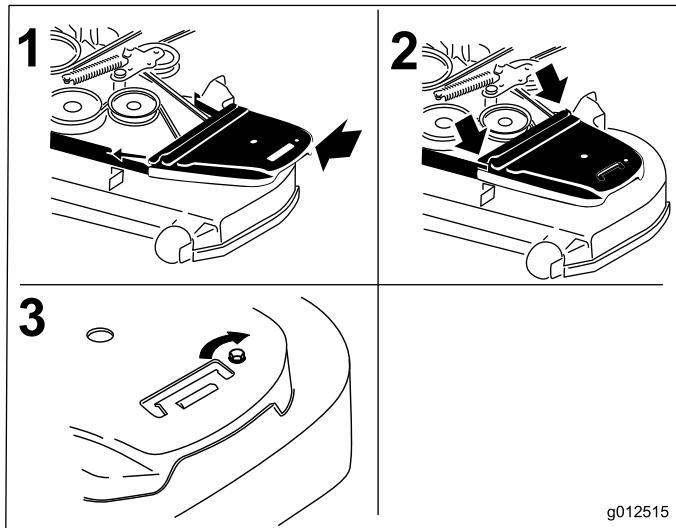

**Figure 73**
9. Install the new belt around the mower pulleys and the clutch pulley under the engine (Figure 73).
10. Install the belt guide on the idler arm shown in Figure 73.
11. Using the ratchet in the square hole, install the idler spring (Figure 73).
5. Use a ratchet in the square hole in the idler arm to remove tension on the idler spring (Figure 73).
7. Remove the belt guide on the spring loaded idler arm shown in Figure 73.